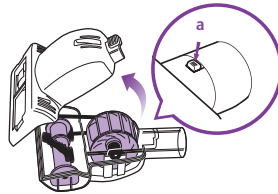

Fig. 25
- 1 Slide the locking latch (a) forward and gently tilt brush housing upward to remove. (Fig. 25)